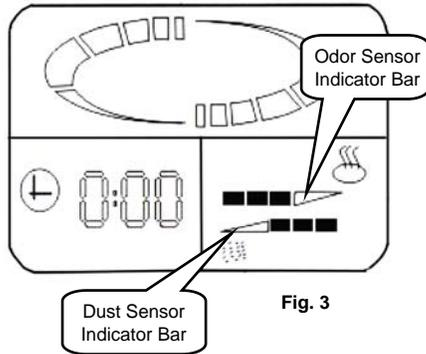

Fig. 3
If the air purifier senses odors in the air, the indicator bar will increase to a maximum of four (4) bars. Adjust the fan speed to a desired level. The air purifier will automatically adjust the fan speed when it is in "AUTO" mode. (Fig. 3)
When more dust is detected in the air the indicator bar will increase to a maximum of four (4) bars. Adjust the fan speed to desired level. The air purifier will automatically adjust the fan speed when it is in "AUTO" mode. (Fig. 3)